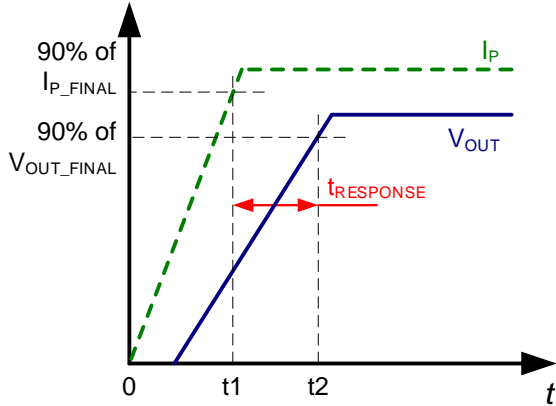

Figure 8: Response Time ( $t_{RESPONSE}$ )
2.  $t_2$ :  $V_{OUT}$  reaches 90% of its final value, as it corresponds to the applied primary current (see Figure 8).